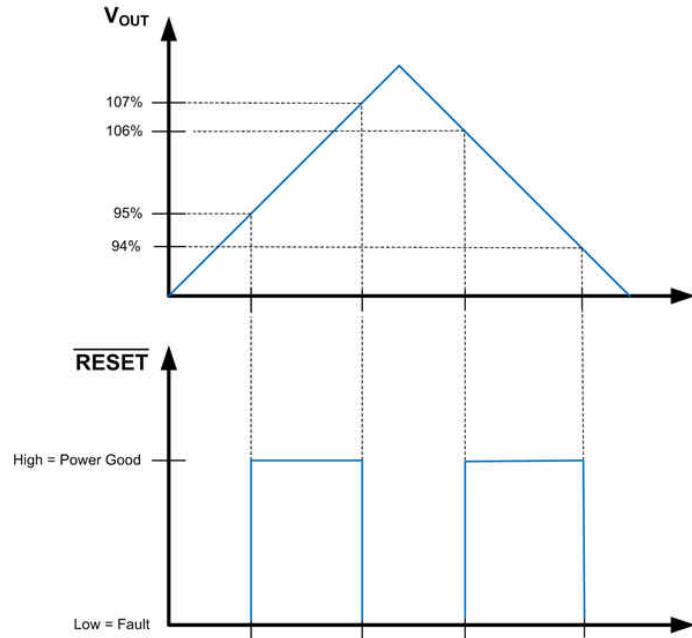
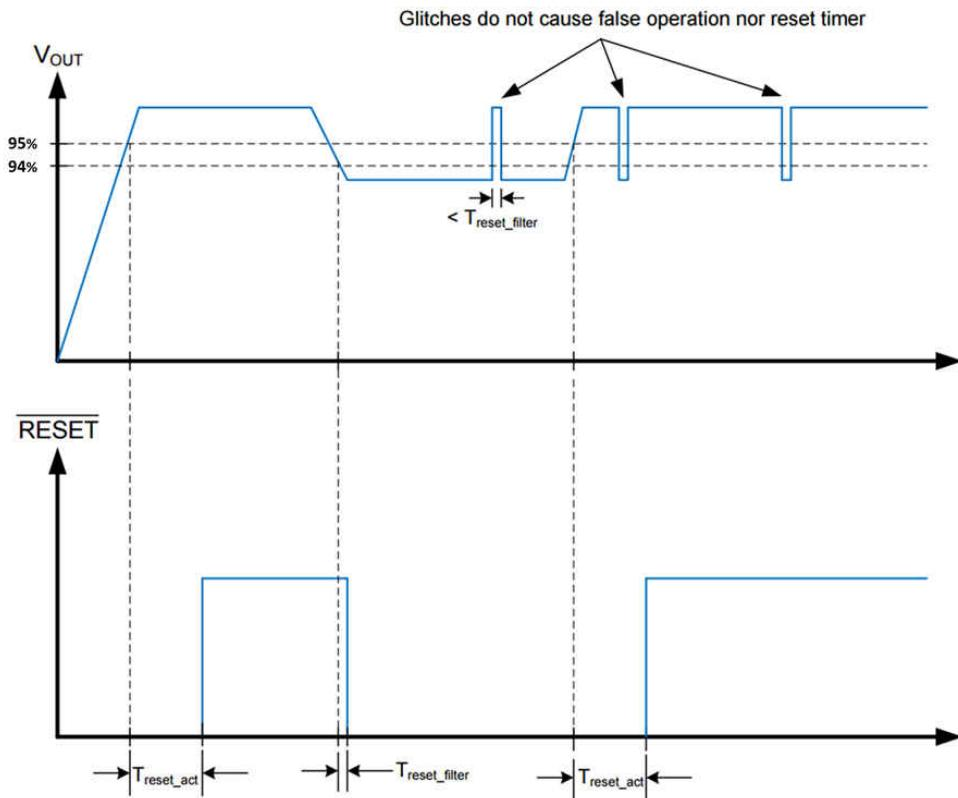

图 8-2. Static RESET Operation
图 8-3. RESET Timing Behavior
The **RESET** function, built into the LM53625/35-Q1, has special features not found in the ordinary Power-Good function. A glitch filter prevents false flag operation for short excursions in the output voltage, such as during line and load transients. Furthermore, there is a delay between the point at which the output voltage is within specified limits and the flag asserts Power Good. Because the **RESET** comparator and the regulation loop share the same reference, the thresholds track with the output voltage. This allows the LM53625/35-Q1 to be specified with a 96.5% maximum threshold, while at the same time specifying a 94 % worst case threshold with respect to the actual output voltage for that device. This allows tighter tolerance than is possible with an external supervisor device. The net result is a more accurate Power-Good function while expanding the system allowance for transients, and so forth. **RESET** operation can best be understood by reference to 図 8-2 and 図 8-3. The values for the various filter and delay times can be found in セクション 7.7. Output voltage excursions lasting less than  $T_{RESET-filter}$  do not trip **RESET**. Once the output voltage is within the prescribed limits, a delay of  $T_{RESET-act}$  is imposed before **RESET** goes high.
- A delay has been added for release of reset. See 图 8-2 and 图 8-3 for more detail.